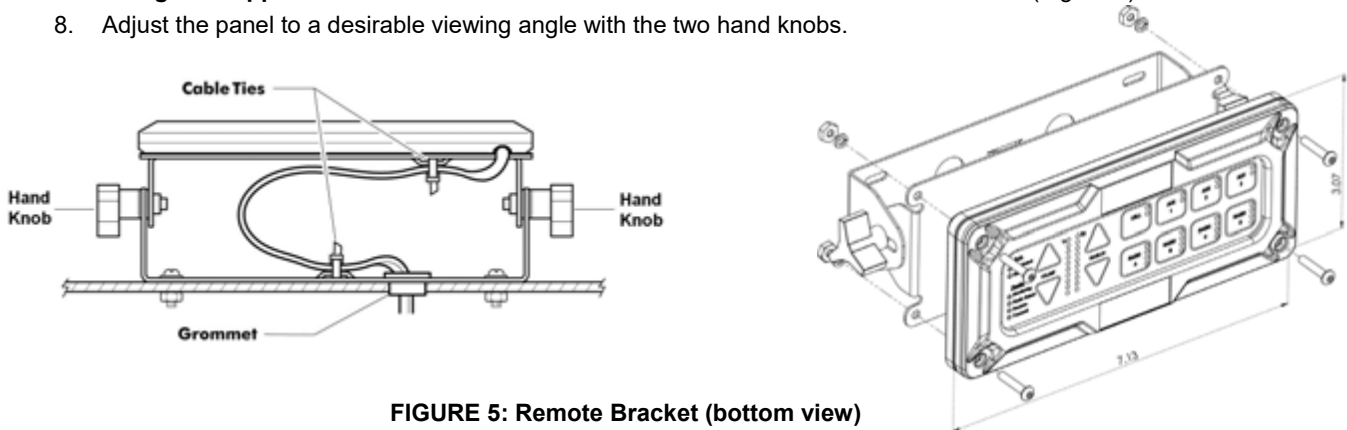

FIGURE 5: Remote Bracket (bottom view)
3. Snap the grommet into the bracket as shown in (Figure 5) and then use the bracket as a template to mark the mounting holes.
4. Drill (4) mounting holes: 7/64" for #6 sheet metal screws or 9/64" for #6 machine screws. Mount the bracket using the included hardware
5. Secure the Remote Head to the front of the bracket with the included machine screws, split washers, and nuts as shown in Figure 5. **Recommended torque : 10 in-lbs**
6. Thread the cable through the bracket **assembly as shown in (Figure 5)**.
7. **Using the supplied cable ties secure the CA Cable** to the bracket anchors as shown (Figure 5).